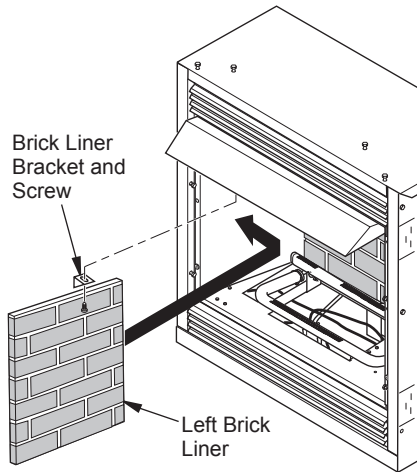

Figure 37 - Installing Side Brick Liners
3. Install left and right brick liners using brackets and screws from hardware kit as shown in Figure 37. Screw the bracket into top of firebox and against brick liners. Adjust bracket before tightening screw.